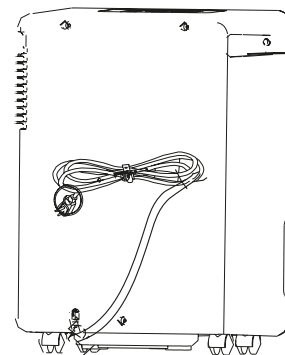

FIG. 12
- Wrap the cord and bundle it with the band (Fig.12).